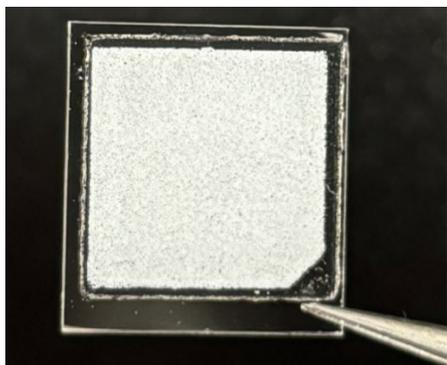

Figure 4. Correct tweezer placement when transferring the Trekker tile. Grip near the chamfered corner. Take care to avoid direct contact with the beads.
- When using tweezers or forceps to transfer the tile, avoid direct contact with the beads. Instead, grip the glass slide from the beveled corner as shown in Figure 4.